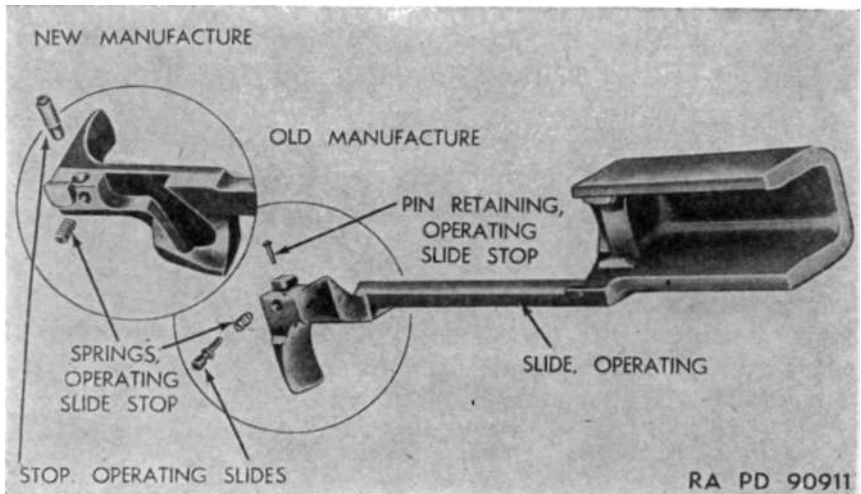
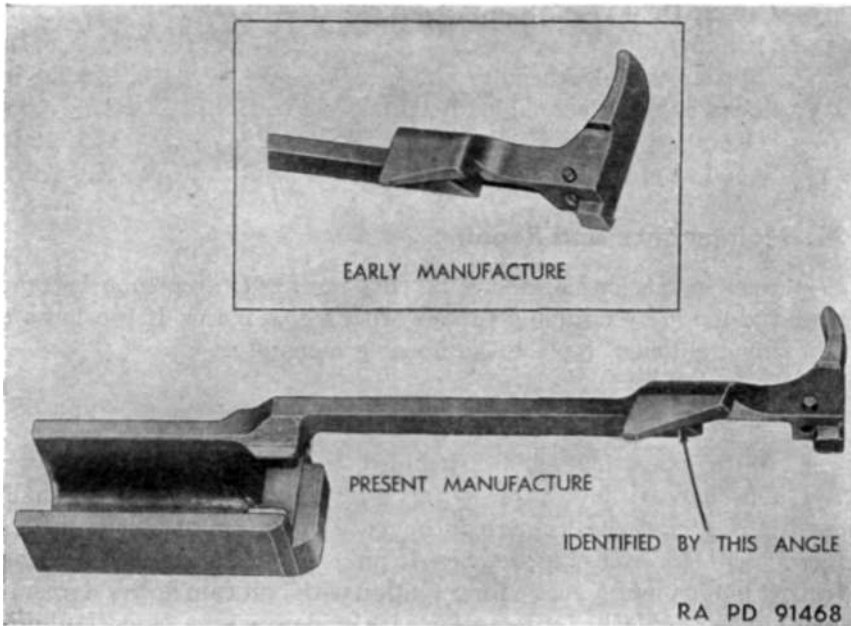

Figure 28. Operating slide group carbines, cal. .30, M1 and M1A1.
Figure 29. Operating slide assembly — early and present manufacture.
a. OPERATING SLIDE (fig. 29) for bent or cracked rear bar, deformation, excessively worn guide lugs, burs, and corrosion. Inspect bolt camming lug recess for wear and burs. Inspect spring guide seating recess in rear face for wear, burs, and foreign matter. Inspect front face of slide where it contacts piston, for levelness. Unevenness at this point may cause malfunction. Check camming surface on M2 and M3 carbines for burs and wear (fig. 29) on right-hand side of slide, where shank of handle joins slide.
b. OPERATING SLIDE STOP. Inspect stop (fig. 28) for wear and burs, looseness in operating slide, and rust. Inspect stop spring for functioning, lack of friction with stop, and for set. Free length of spring (A7312453) is 0.270 (approximately $\frac{1}{4}$ inch). Inspect spring for foreign matter. Replace all slide stops, springs, and retaining pins with slide stops and springs of late manufacture. (See fig. 29.)